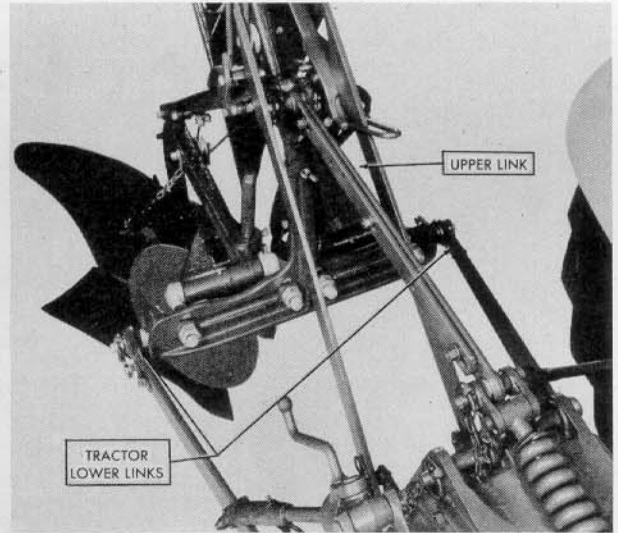

Figure 6
7. Back tractor into position and attach the right and left lower tractor links as shown in Figure 6. Secure with lynch pins.
8. Attach tractor upper link to plow and then to tractor control spring yoke. See Figure 6. Secure with lynch pins.